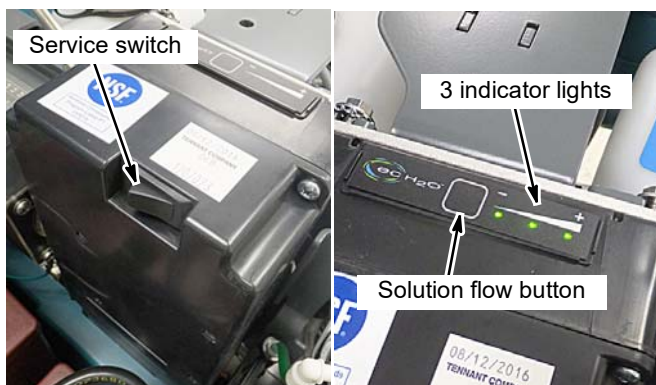

FIG. 143
- b. Press and hold the service switch, located on the ec-H2O module, for 10 seconds. After releasing service switch, the three solution flow indicator lights will begin to (ripple) move back and forth (Figure 143).
- c. Within 5 seconds after releasing the service switch, while the three indicator lights are moving back and forth, quickly press and release the solution flow button located on ec-H2O module (Figure 143).